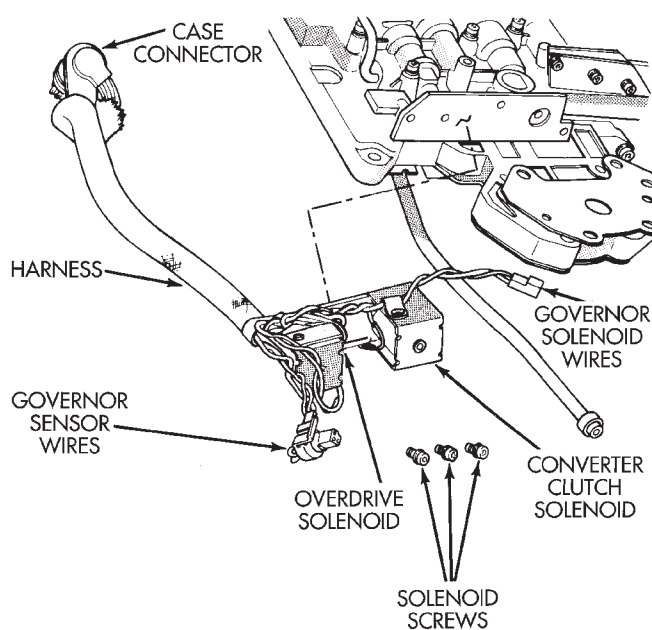

Fig. 47 Solenoid Assembly
(12) Remove solenoid and harness assembly from valve body (Fig. 47).